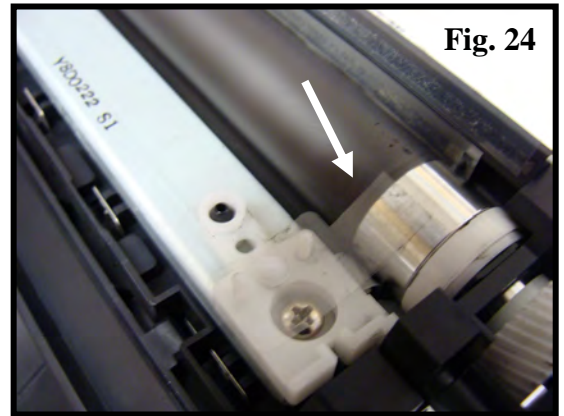

Fig. 24
24. After reassembling the toner hopper, make sure the mag scraper mylars are set on the surface of the mag roller (Fig. 24).